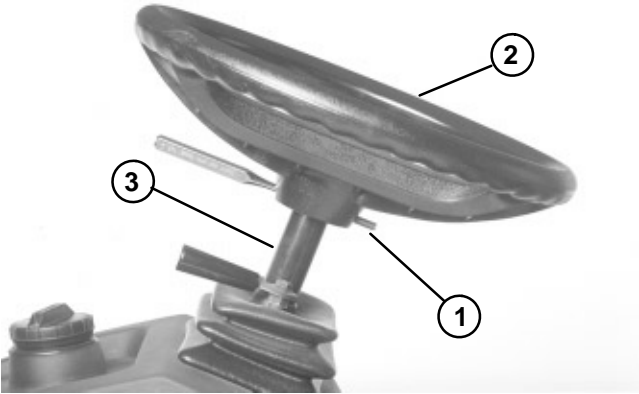

Figure 35
2. Remove roll pin from the steering wheel and upper steering shaft with a drift punch. Remove steering wheel from the upper steering shaft (Fig. 35).
5. Install steering wheel onto the upper steering shaft. Secure steering wheel to upper steering shaft with the roll pin using a drift punch (Fig. 35).